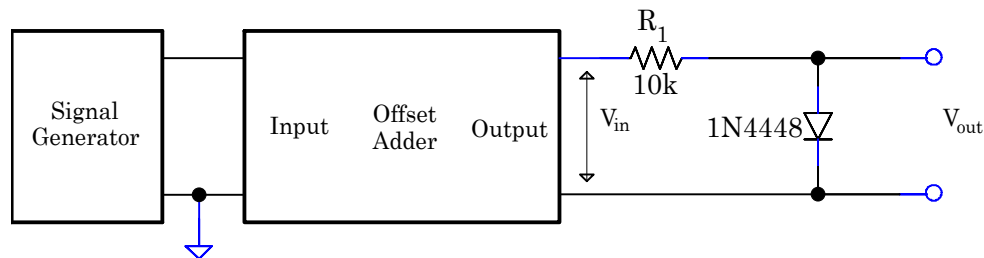

Fig. 2. Diode Analysis
3.9 Using the same diode as before, build the circuit shown in Fig 2. Study the DC response of the circuit by temporarily disconnecting the signal generator. Vary V_{in} by turning the Offset Adjust knob on the Offset Adder. What is V_{out} for $V_{in} = 0.25, 0.5, 0.7, 1,$ and 2 VDC? Select a different resistor, say $R_1 = 1\text{k}$. Again measure the output voltage for several input voltages. Using the graph of the diode characteristic you obtained in question 3.5, perform a graphical load line analysis for each of the resistors. Do the equilibrium points predicted by the load line analysis agree with your data? (See Appendix III for an Excel tutorial.)
3.11 Reconnect the 10k resistor and diode to the Offset adder. (You should now be back to the circuit in Fig. 2.) Adjust the signal generator and Offset Adder to produce a 0.1 V p-p sine wave riding on a +1V DC offset. Sketch V_{out} . In contrast to the output signal produced the circuit in 3.7, the signal is not rectified, i.e. the lower half is not cut off. Explain why.
The MultiSim circuit is very similar to the circuit in Fig.2; capacitor C1 and resistor R2 are simply used to block the DC component of the signal across the diode. The parameter VAC sets the amplitude of the AC signal driving the diode, while VDC (1V) sets the DC bias. Both VAC and VDC can be changed by double clicking on the numeric value to their right.